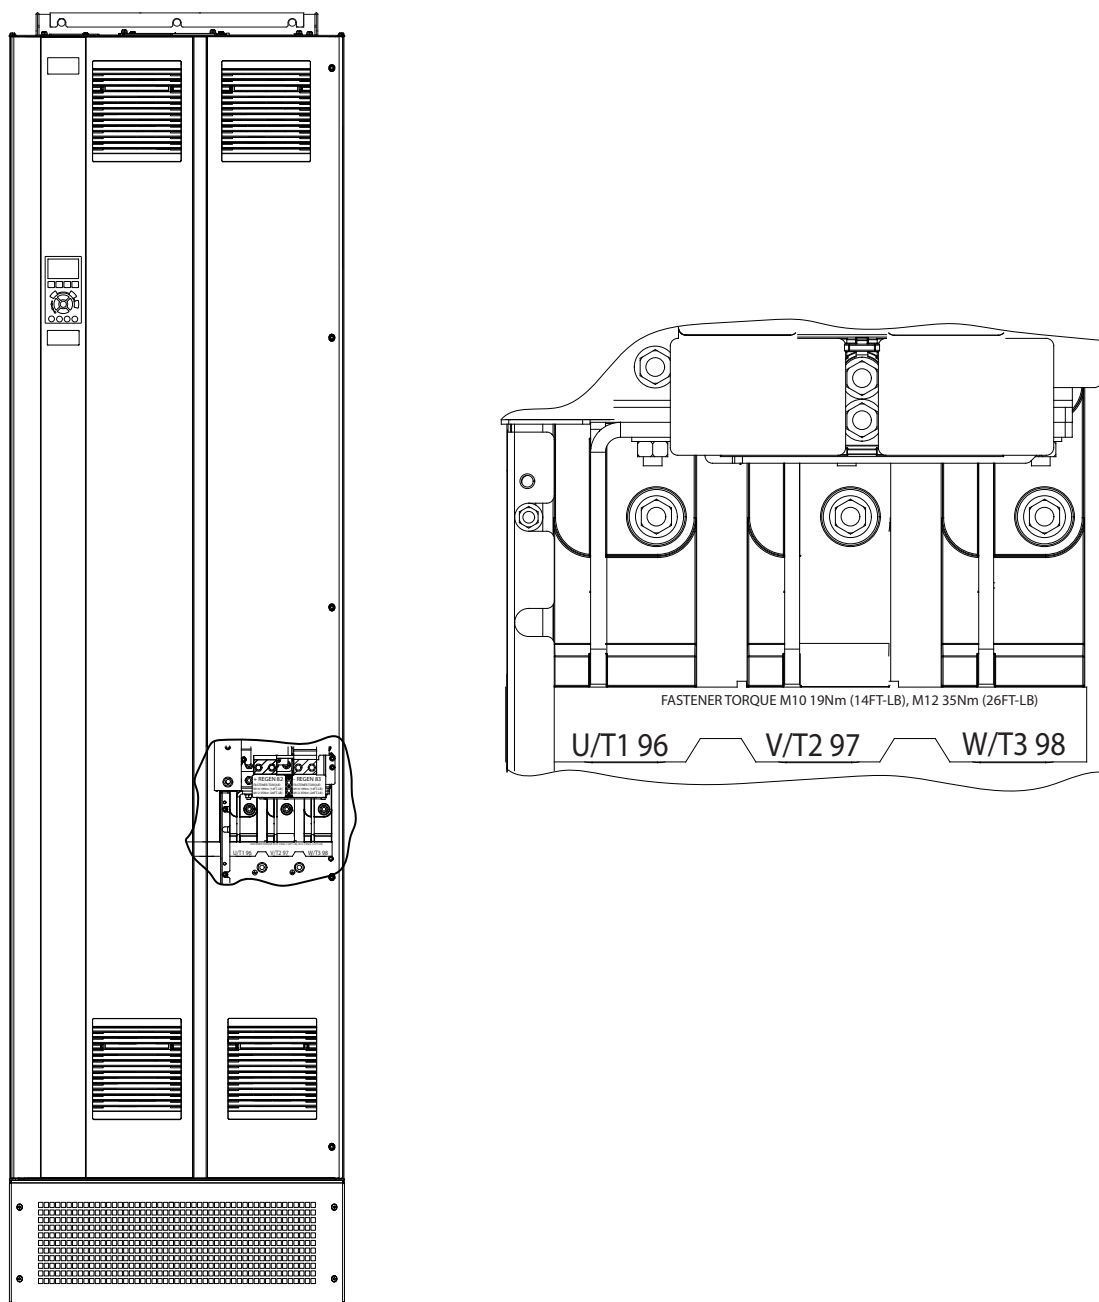

Figure 5.3 AC motor terminals (E1h shown). For a detailed view of terminals, refer to *chapter 5.7 Terminal Dimensions*.
4. Connect the 3-phase motor wiring to terminals 96 (U), 97 (V), and 98 (W), see *Figure 5.3*.